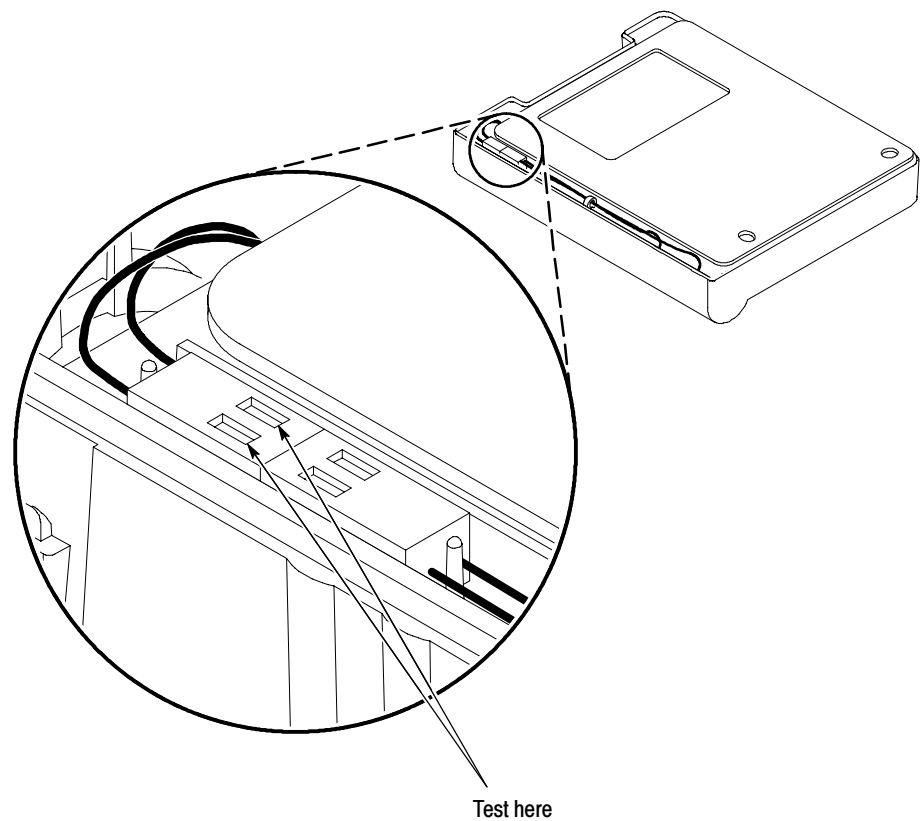

Figure 27: Battery connector location
7. Verify that the battery connector is properly connected. See Figure 27.